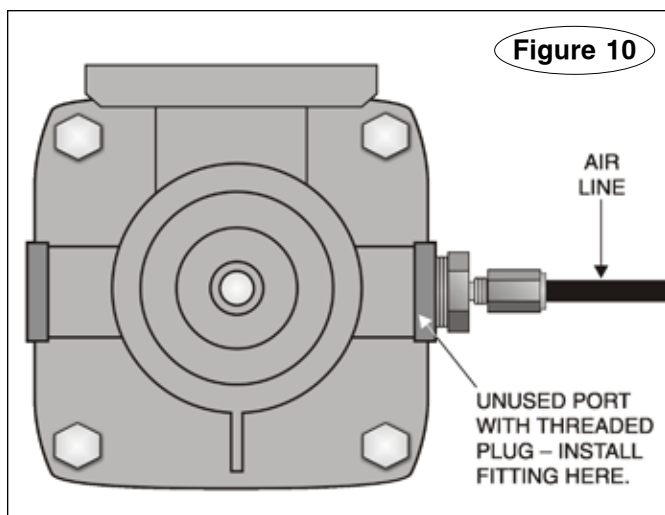

Figure 10
3. **If the motorhome has air brakes** – find the air brake relay valve (Figure 10), which is typically located
near the master cylinder. There should be one or more open ports with threaded plugs (Figure 10).